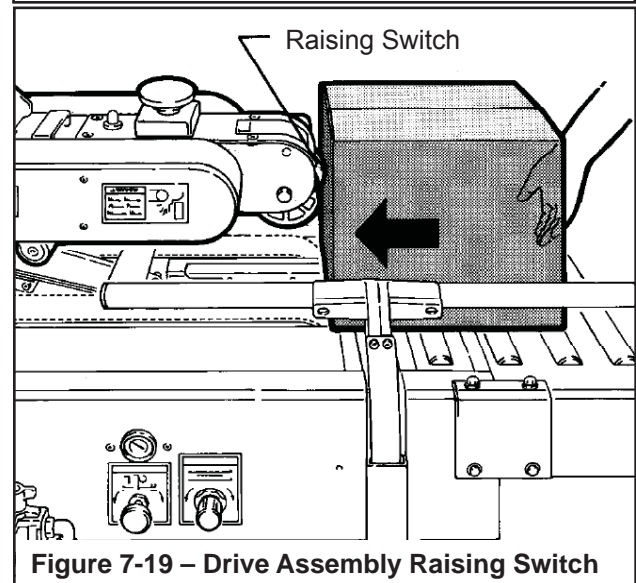

Figure 7-19 – Drive Assembly Raising Switch
2. Once the box is centered by the guides, the operator pushes the box against the raising switch on the upper drive assembly, as shown in **Figure 7-19**, causing the upper taping head to be raised by two air cylinders. The upper taping head will continue to rise above the box height so the operator can insert the box underneath the upper drive belts.